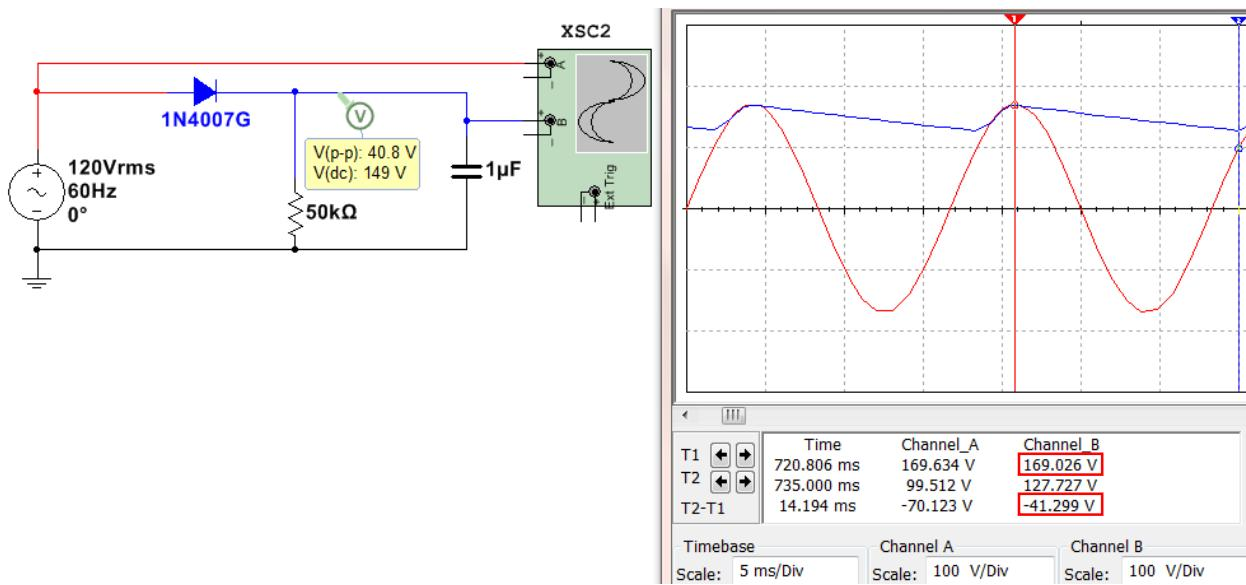

Figure 6.16: Half-Wave Peak Rectifier.
Rectification is the first step in converting an AC signal to a DC signal. The next step would be to add a capacitor in parallel with the load resistor where V_o,pk is measured so that the voltage will not be allowed to drop very fast due to the time constant of the capacitor. Once the “smoothing capacitor” is added the rectifier is called a “Peak Rectifier”. An example of a half-wave peak rectifier is shown in Figure 6.16. The calculations and Multisim measurements of a half-wave peak rectifier are shown below (See equation summary in Table 6.1).
- V_s = peak input voltage = $120 \cdot \sqrt{2} = 169.7 \text{ V}$ (169.634 V in Multisim - Figure 6.16).
- V_o,pk = peak output voltage = $V_s - 0.7\text{V} = 169 \text{ V}$ (169.026 V in Multisim - Figure 6.16).
- V_r = ripple voltage (V_o,pk – minimum V_{out}) = $\frac{V_{o,pk}}{fRC} = \frac{169}{60 \cdot 50k \cdot 1\mu} = 56.3 \text{ V}$ (~ 41.3V in Figure 6.16).
- $V_{o,dc}$ = the approximate DC voltage (centerline of the ripple). In Figure 6.16 $V_{o,dc}$ is equal $169 - 0.5 \cdot V_r = 169 - 0.5 \cdot 41.3 = 148.4 \text{ V}$. The DC voltage probe in Figure 6.16 measures the DC voltage as 149 V.
The equations for half-wave and full-wave peak rectifiers that were shown in Figures 6.16 and 6.17 are summarized in Table 6.1. **Note:** The **Full Wave Center Tapped** equations are shown, but this type of rectifier circuit is not covered in detail in this eBook.